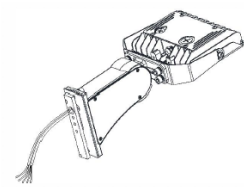

Fig. 5.5
3. Pass the input wire through the bracket and lock the bracket (Fig. 5.5).